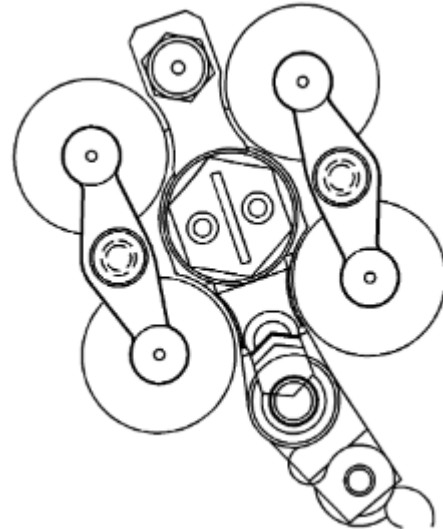

Fig. 69: Valve bridge orientation
- a. Install the valve bridges, valve bridge pins, and pushrods. Reference figure 69 for the orientation of the valve bridges.